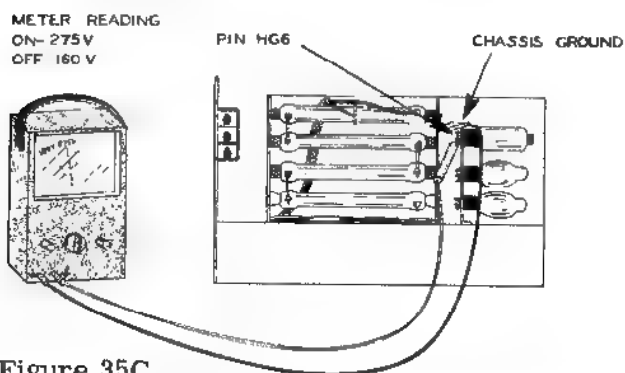

Figure 35C
- () Connect the positive lead of a Volt-Ohm-Milliammeter to chassis ground, negative lead to pin HG6 of the 6DQ6 clamp tube (this pin has a 33 K Ω 1 watt resistor and a green wire connected to it and can be reached with an insulated probe from the side of the control tube mounting bracket). See test setup shown in Figure 35C.